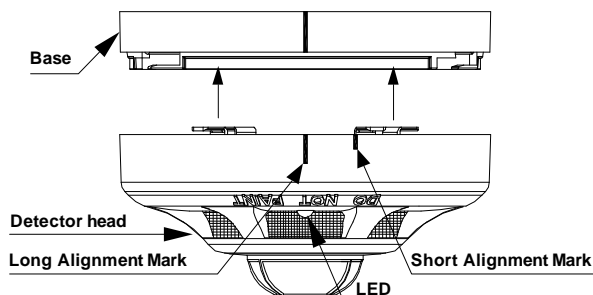

Fig. 3: Fitting the detector to the base
1. Align the detector alignment mark with the short alignment mark in the base, as shown in Fig. 3.